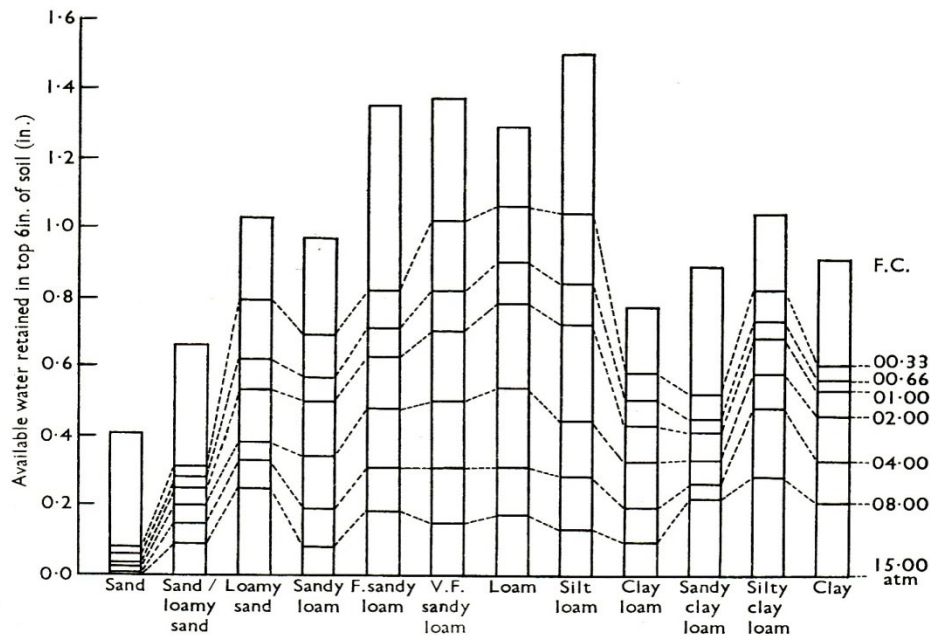

Fig.7. Water retention characteristics summarized for the different textural classes. (Salter and Williams, 1965)
*Figure 7:12. Comparative rates of irrigation water movement into a sandy loam (left) and a clay loam (right). Note the much more rapid rate of movement in the sand, especially in a downward direction. (Redrawn from J. J. Coony and J. E. Pehrson, Avocado Irrigation, Calif. Agric. Ext. Leaflet 50, 1955.)*